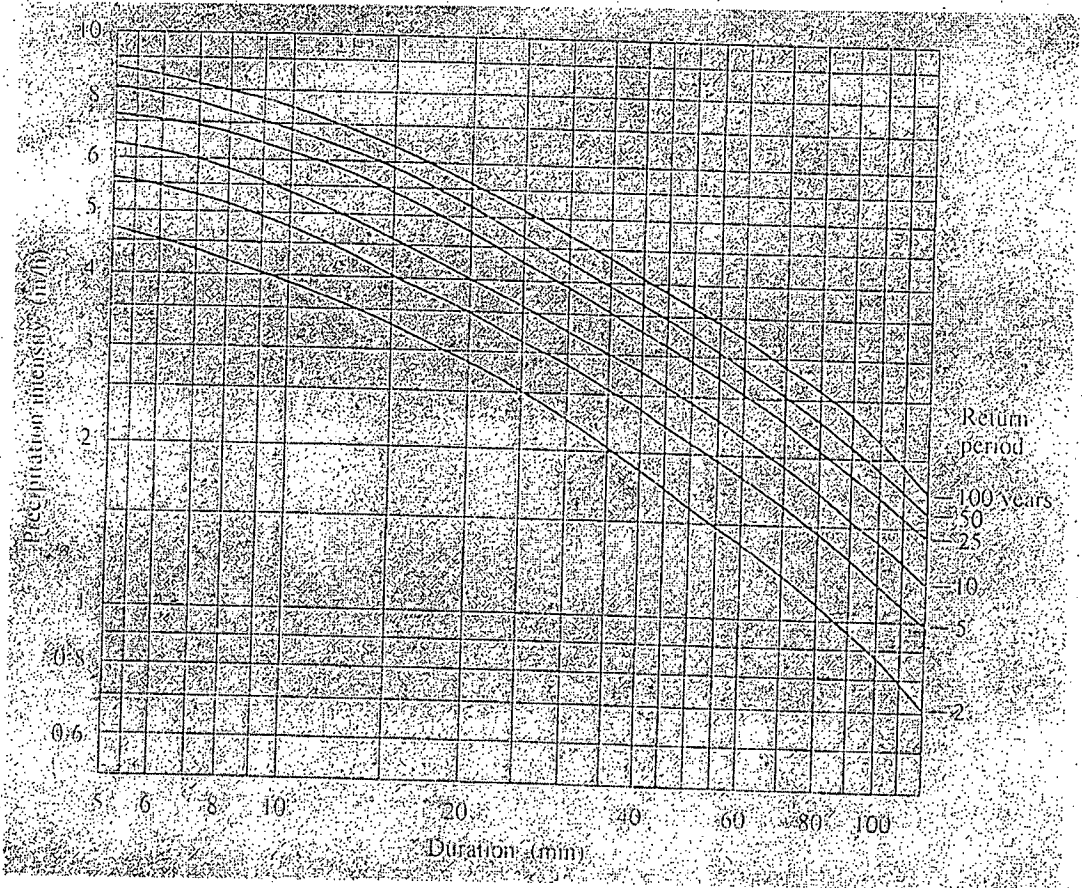

Figure 1: Intensity - Duration - Frequency (IDF) curves for Q. No. 2(b)
- (iv) Find out the runoff coefficient for the catchment. (18)
- (b) The design precipitation intensity for a storm with a T-year return period is 2.5 in/hr. The slope is 0.007 and the maximum length of travel of water is 1500 m for the catchment. Estimate the design return period (T). In addition, estimate the design precipitation volume (m3) and design peak discharge (m3/s) using Rational method for the catchment. The area of the catchment is 3 km2 and runoff coefficient is 0.7. Use IDF curves (Figure 1) and Kirpich formula for your estimation. (12)
- (c) Define: (i) Residence time, and (ii) Biological water. (5)